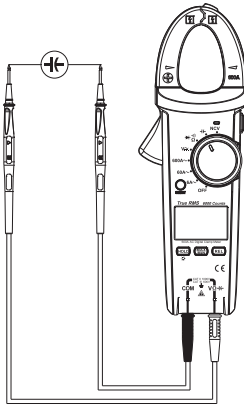

Figure 9
7. Capacitance Measurement (See Figure 9)